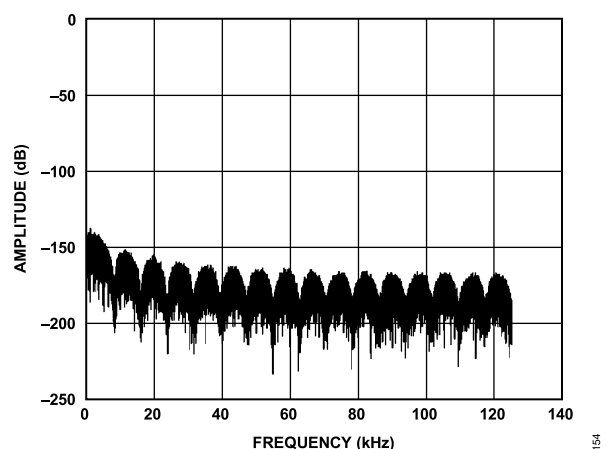

Figure 147. Example of Filter Profile Upload
The following sequence programs a Sinc1 filter. The coefficients in Address 0 to Address 23 = 0. The coefficients from Address 24 to Address 55 = 131,072 ($2^{22}/32$). When MCLK = 16.384 MHz and ODR = 256 kHz, the filter notch appears at 8 kHz and multiples of 8 kHz. This filter provides low noise and is recognizable by the distinctive filter profile shown in Figure 147.
17. Gather data. Figure 147 shows the resulting filter profile.